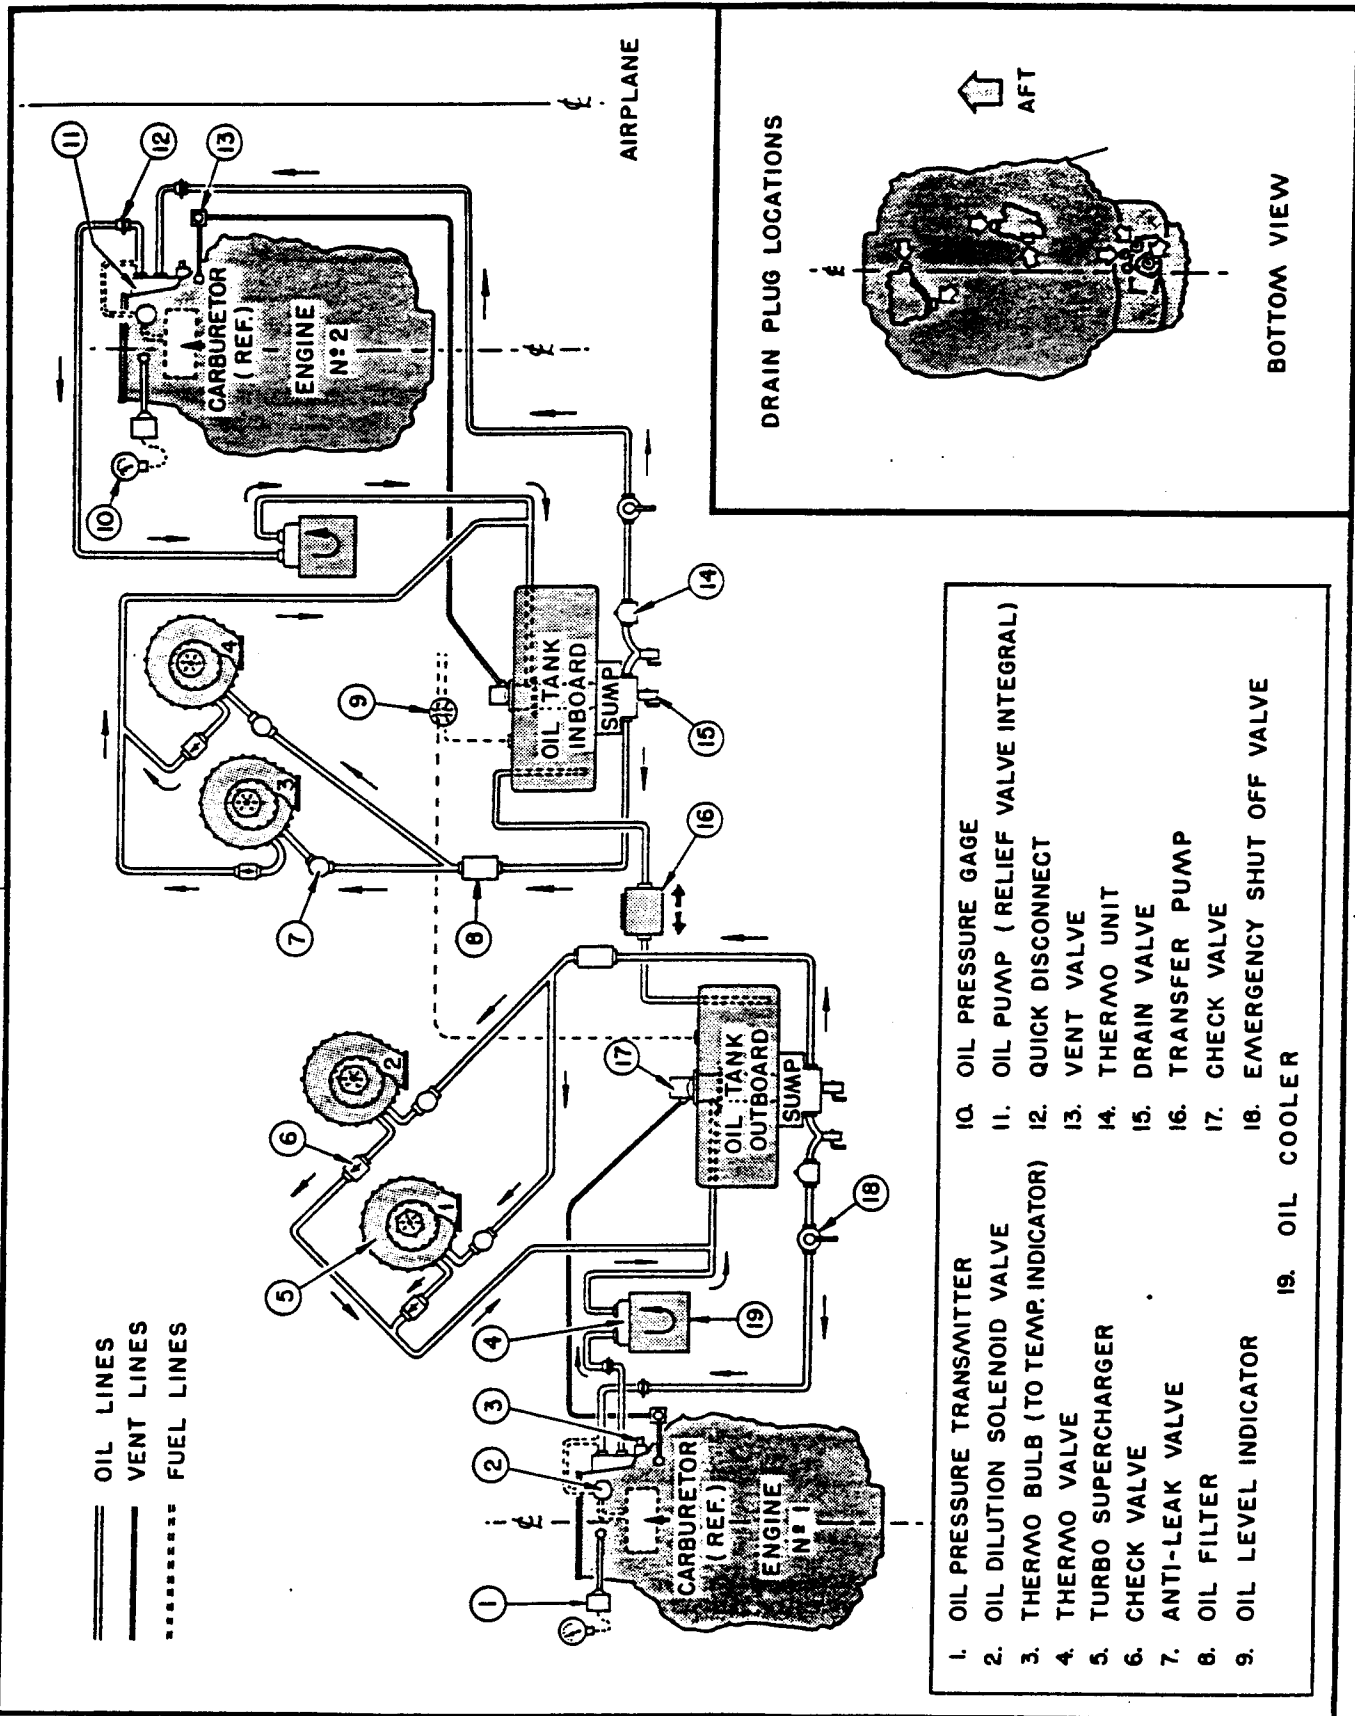
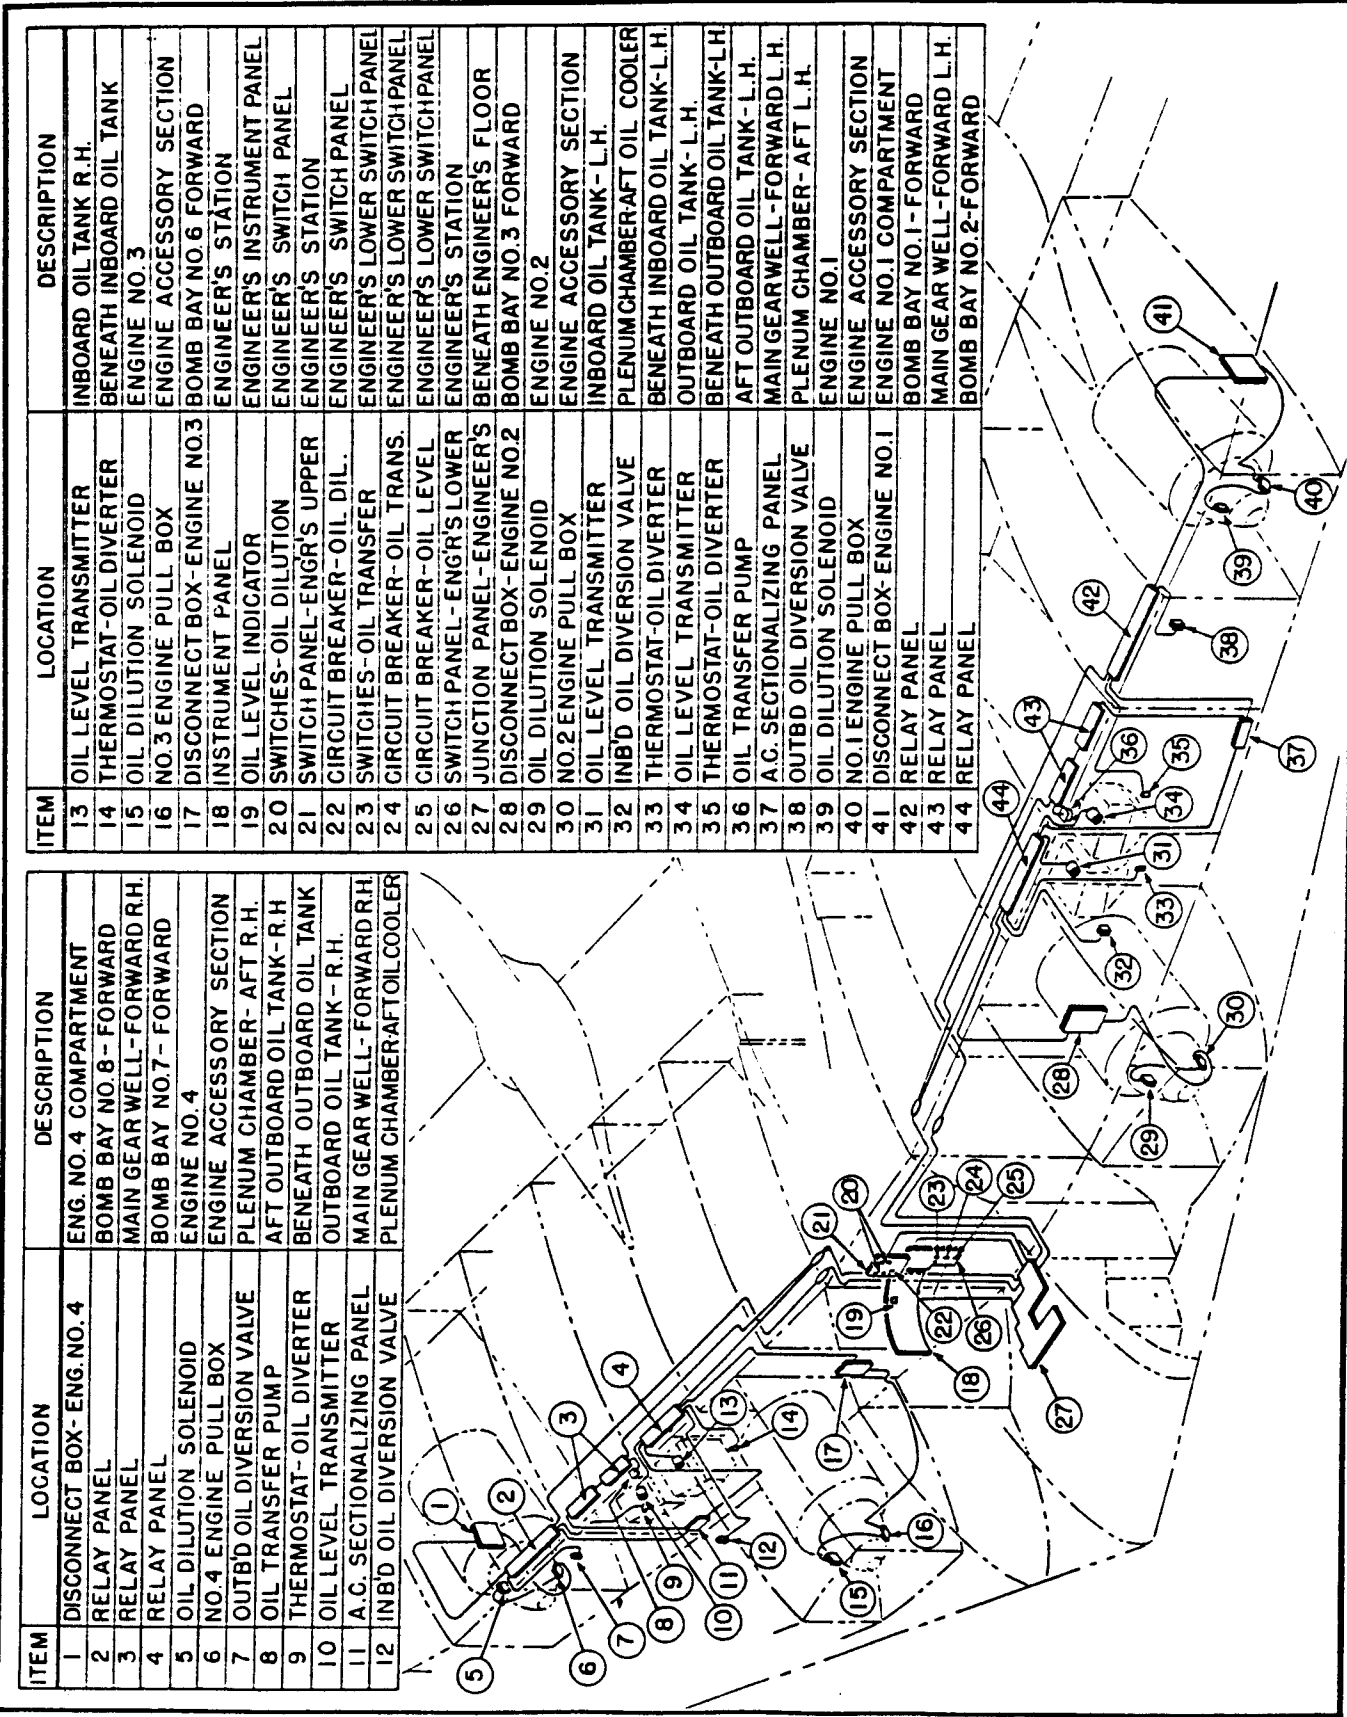

Figure 1. Engine and Turbo Oil System
Figure 2. Oil System Electrical Diagram
n. FUEL LEVEL INDICATORS.- Two dual fuel level indicators of the D-C Selsyn 3-wire type are installed in the engineer's instrument panel, and register the fuel level of each main fuel tank. A fuel level transmitter is installed in each fuel tank. One dual indicator registers the fuel levels of the two outboard fuel tanks and the other registers the fuel levels of the two inboard fuel tanks. The systems operate on 28 volts, d.c., picked up from a bus in the engineer's switch panel and routed through a switch-type circuit breaker to the engineer's instrument panel. (See figure 2.)
(1) DESCRIPTION. (See figure 1.)- An individual oil system is provided for each engine. Each system consists of the following parts: an 85-gallon, hopper-type, oil supply tank, a transfer line incorporating an oil transfer pump for each pair of oil tanks, three drain valves, an oil cooler, a temperature control valve, an emergency oil shut-off valve, and an oil dilution valve. The temperature control valve controls the flow of engine oil to the oil cooler shutter operating mechanism. The emergency oil shut-off valve in the tank-to-engine main oil supply line is manually operated from controls located in the forward cabin, above the entrance doorway. The oil transfer pump is electrically-controlled by manually-operated switches located on the engineer's switch panel, and is used to transfer oil from an inboard tank to an outboard tank, or an outboard tank to an inboard tank on the same side of the airplane. See figure 2 for the engine oil system electrical diagram. The turbosuperchargers receive their oil from the main engine oil tanks, two turbosuperchargers receiving oil from the same oil tank. The propeller gear boxes are supplied with oil for lubrication by an individual oil system for each propeller gear box (see figure 3). Each of the auxiliary power units has an integral sump type oil system. There are no external tanks or connections to other systems. The aluminum alloy oil pan has a capacity of 9 quarts of Specification AN-VV-O-446, grade 1065 lubricating oil. Maximum safe oil temperature is 220° F. Pressure is 35 to 45 pounds.
(2) ENGINE OIL SYSTEM OPERATION.- Oil is gravity fed from the oil supply tank to the engine-oil pressure pump. After being distributed through the engine the oil is returned by the scavenge pump through the oil cooler to the supply tank. If an obstruction or congealed oil restricts the flow of oil through the oil cooler, the spring-loaded relief valve will by-pass the oil directly to the oil tank. Oil may be transferred from one oil tank to the other on the same side of the airplane. A manually-operated emergency oil shut off valve is incorporated between the oil tank and the engine. Closing the emergency oil shut-off valve does not stop the flow of oil from the oil tanks to the turbosuperchargers. Airflow through the oil cooler is thermostatically controlled.
(3) MAINTENANCE.- At each engine oil change, drain and flush the system with kerosene, Federal Specification No. VV-K-211, or solvent, Federal Specification No. P-S-661. Clean the oil tanks, oil strainers, and oil coolers at this time. See paragraph b (3), in this section.
(4) TURBOSUPERCHARGER OIL SYSTEM OPERATION.- Oil is gravity-fed from the main engine oil tanks to pumps in the superchargers. The oil pump feeds through a type G159J purolator oil filter to the bearings in the turbosupercharger. A scavenge pump, also built into the turbosupercharger, returns the oil directly to the main engine oil tanks. (See figure 1.)
(5) MAINTENANCE OF TURBOSUPERCHARGER OIL SYSTEM.- On each daily inspection, the Purolator oil filter handle must be turned one complete revolution.
(6) TROUBLE SHOOTING.
DESCRIPTION. (See figure 2.)- The propeller gear boxes are supplied with oil for lubrication by an individual oil system for each propeller gear box. Oil, Specification No. AN-VV-O-446, is stored in a 3-gallon doughnut-shaped oil tank which is attached to the gear box and encircles the propeller driveshaft. The propeller gear box oil system is composed of the following parts: an oil tank, oil filter, oil pressure and scavenge pumps, and an oil cooler. Airflow through the oil cooler is thermostatically controlled.